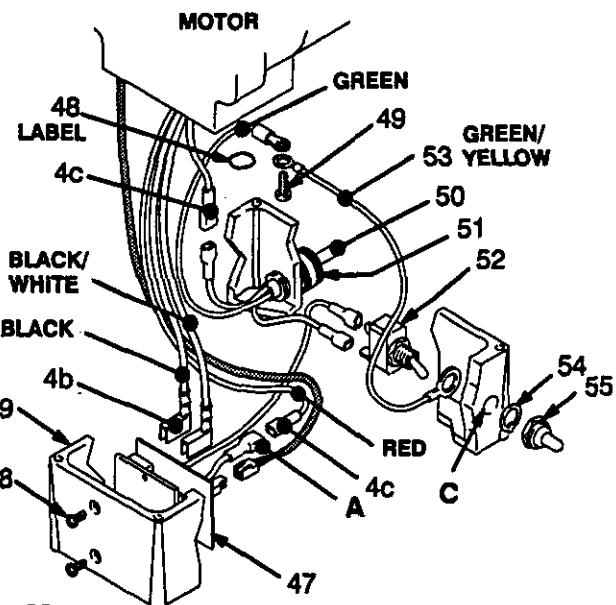

Fig 28
1. Remove the junction box screws (56) and lower the junction box (59). See Fig 28.
2. Disconnect the motor wires (4b) and the 3-wire connector (A) from the motor start board (47). Observe where connections are made. See Fig 28.
3. Remove the screws (58) and motor start board (47). Transfer the white thermal paste from the old board to the new board. See Fig 28.
2. Remove the nut and rubber boot (55).
3. Disconnect the black wires from the ON/OFF switch (52) and remove the switch. See Fig 28.
4. Place the ring terminal of the ground wire (53) over the barrel of the new switch. Install the switch so the internal tab of the anti-rotation ring (54) engages with the vertical groove in the threads of the switch, and the external tab engages with the blind hole (C) of the junction box.
5. Powder the inside of the rubber boot (55) with talcum, then shake the excess out of the boot. Install the nut and rubber boot and tighten.
2. Disconnect the power supply cord leads, including the green wire to the grounding screw (49). See Fig 28.
3. Loosen the strain relief bushing (51). Remove the power supply cord (50).
4. Install the new cord (50) in the reverse order of disassembly.